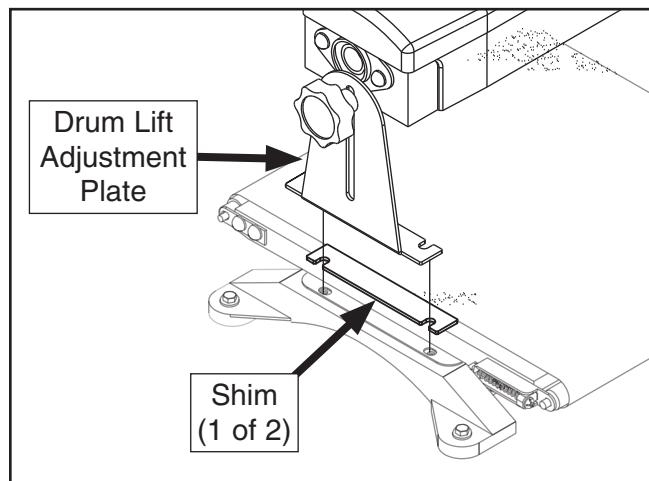

Figure 64. Shim inserted between drum lift adjustment plate and conveyor table.
- Have an assistant lift left side of drum just enough so you can insert shim(s) between drum lift adjustment plate and conveyor table (see **Figure 64**).